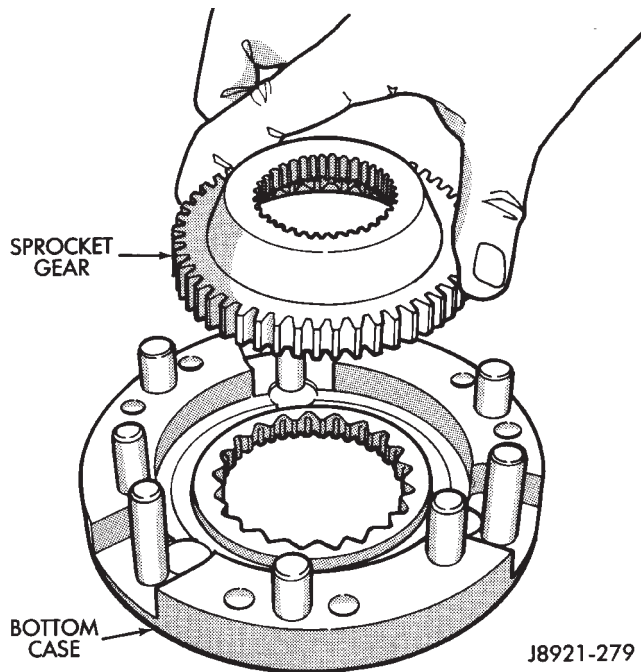

Fig. 60 Installing Differential Sprocket Gear
- (1) Lubricate differential components with automatic transmission fluid.
- (2) Install sprocket gear in differential bottom case (Fig. 60).